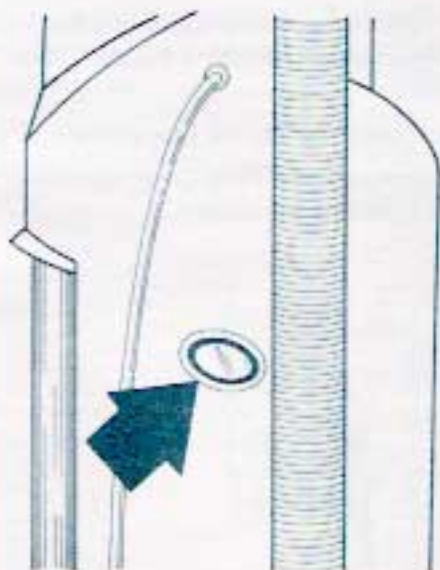

Figure 15c
9. Next, facing the back of the vacuum, look between the Upper and Lower Cord Hooks for a clear plastic oval Inspection Window. Look inside the Window for any accumulation of fluff or debris. (Figure 15c)